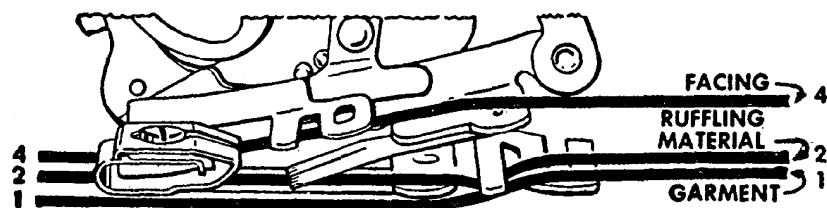

Fig. 68. Correct Positions for Materials
1. Insert material to be ruffled between two blue blades Line 2, Fig. 68.
2. Place material to which ruffle is to be attached under separator blade **Line 1, Fig. 68.**
3. Place facing material over upper blue blade **Line 4, Fig. 68.**